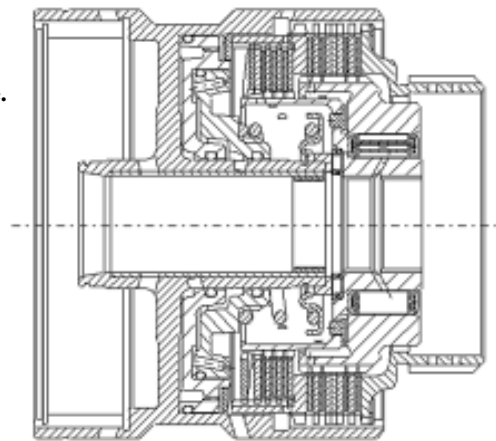

Figure 8.24 Typical C2/C4clutch assembly
- v. Install the thrust disc on the cylinder internal wheel axle. Refer to Figure 8.24 and 8.19.
- w. Connect the C2 /clutch C4 wheel axle assembly in clutch C4 disc, install the clutch C2 disc. Install the C3 wheel axle and reinforce it by ring spring; ensure the ring spring is installed in the groove fixedly. Please refer to Figure 8.24.